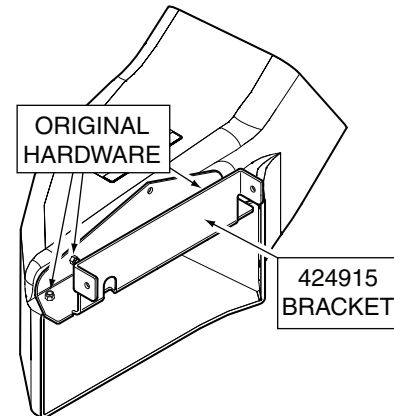

Figure 2-5. GC Boot Mounting Bracket Installation
4. Install the new grass catcher boot mounting bracket (p/n 424915) supplied with the SZL36 / SFZ36 Installation Kit onto the boot assembly. Secure using the original hardware that was removed in the previous step. See Figure 2-5.